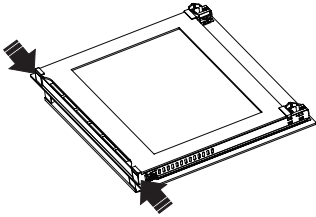
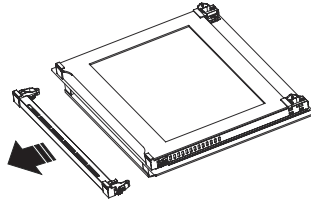
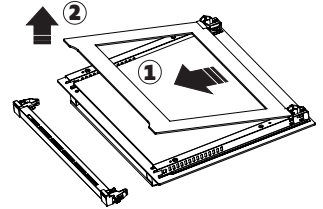

Figure 138
Figure 139
Figure 140
1. Press the plastic latches on the left and right side as shown in figure 138 and lift the profile by pulling it towards you as shown in figure 139. Glass is free after the profile is removed as shown in Fig. 140. Carefully pull the glass that has become free toward you. If necessary, the central glass can be removed in the same way. The outer glass is fixed to the oven door profile. You may easily clean the glasses after they have been separated. Once the cleaning and maintenance is complete, you may replace the glasses and the profile by performing the removal procedure in reverse. Make sure that the glass is inserted in the correct direction and that the profile fits properly.